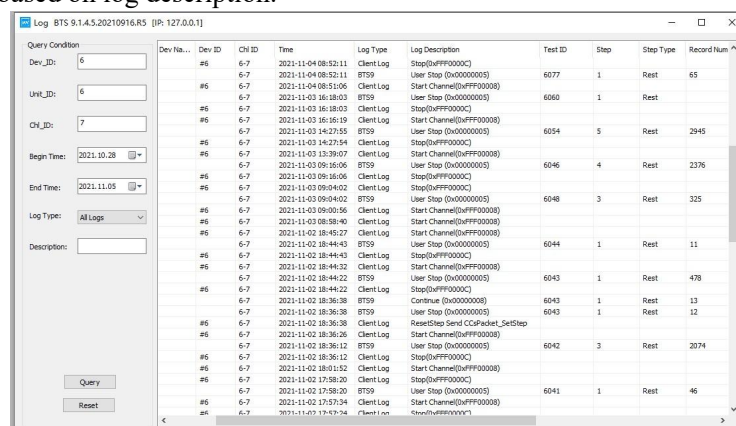

Figure 4-28 View Log
1. Select the channel to be viewed and right click → select the "View Log" option. The log search and preview window are displayed, as shown in the following figure. (Figure 4-28)